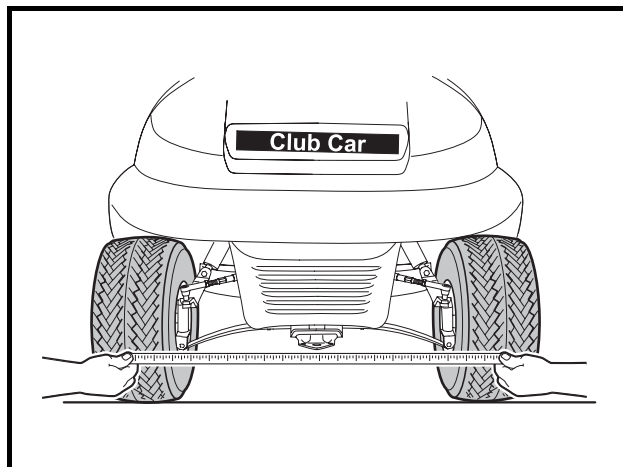

Figure 7-16 Check Toe-In
3. Measure the distance between the marks on the rear-facing surfaces of the tires, and then roll the vehicle forward one and one-half wheel revolution until the marks appear on the forward-facing surfaces of the tires at about the same height from the floor (**Figure 7-16, Page 7-11**).
4. Measure the distance between the marks on the forward-facing surfaces of the tires (**Figure 7-16, Page 7-11**).